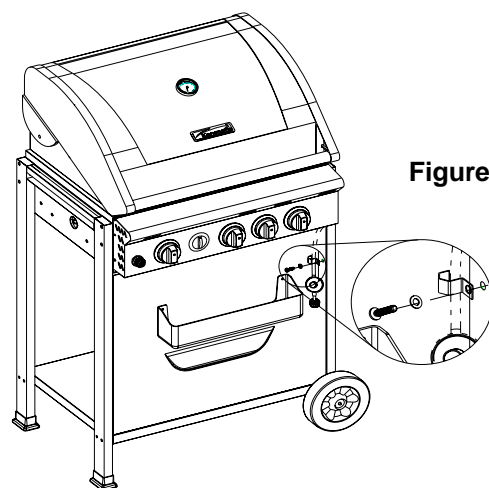

Figure 9
4. Attach and secure the regulator hose clamp and the regulator hose to the right front leg with (1) $\frac{1}{4}$ x $\frac{3}{5}$ " Phillips screw head and $\frac{1}{4}$ " lock washer. (Fig.9)